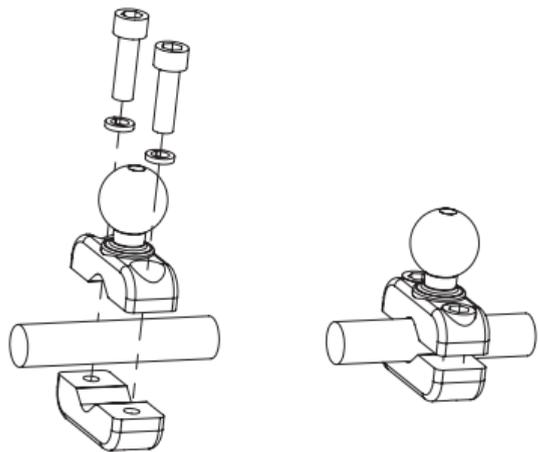

Figure 2
3. Using the $5/32$ " Hex Key, disassemble the bottom portion of the mount and reassemble onto mirror stem or other bar as shown in **Figure 2**. Use the longer 10-24 x $7/8$ " Screws if needed.